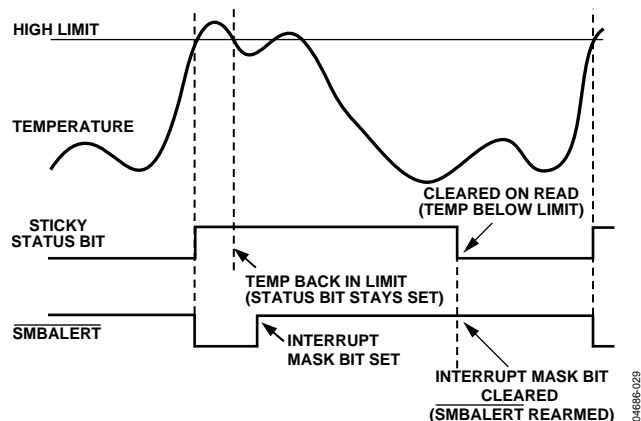

Figure 27. How Masking the Interrupt Source Affects SMBALERT Output
7. Periodically poll the status registers. If the interrupt status bit has cleared, reset the corresponding interrupt mask bit to 0. This causes the SMBALERT output and status bits to behave as shown in Figure 27.